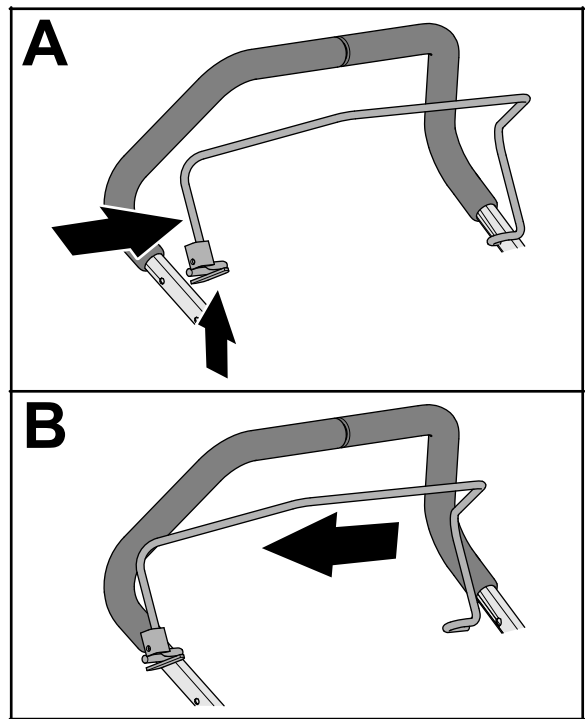

Figure 9
1. Squeeze the leg of the operator-presence bail until you can remove it from the upper handlebar, and remove the bail from the machine (Figure 9).